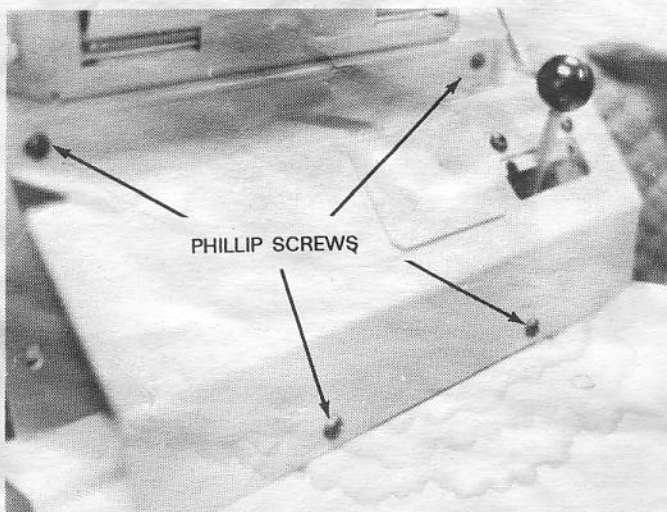

FIG. 4
5. Remove the shift cover shown in FIG. 4 by removing the shift knob and 4 each phillip head screws.